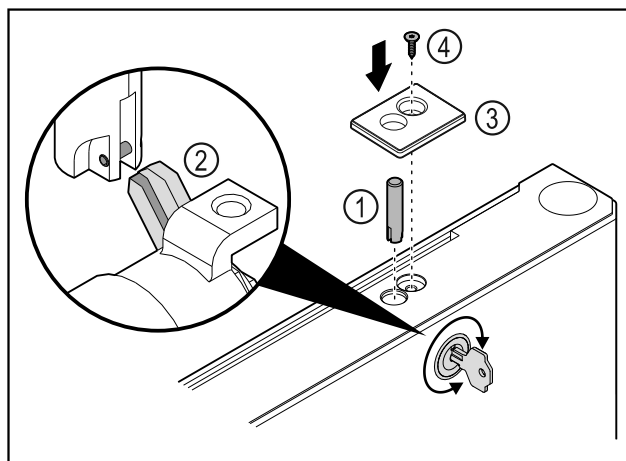

Fig. 39
- ▶ Put in the lock bolt Fig. 39 (1).
- ▶ Turn the lock slightly so that the lock bolt Fig. 39 (2) engages in the slot of the lock.
- ▶ Put in the cover Fig. 39 (3).
- ▶ Insert the screw Fig. 39 (4).